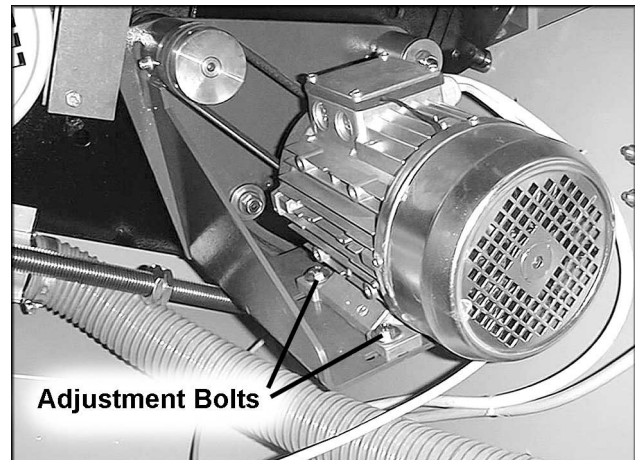

FIGURE 34
1. Remove the access door and loosen the four bolts (Fig. 34) which hold the motor.